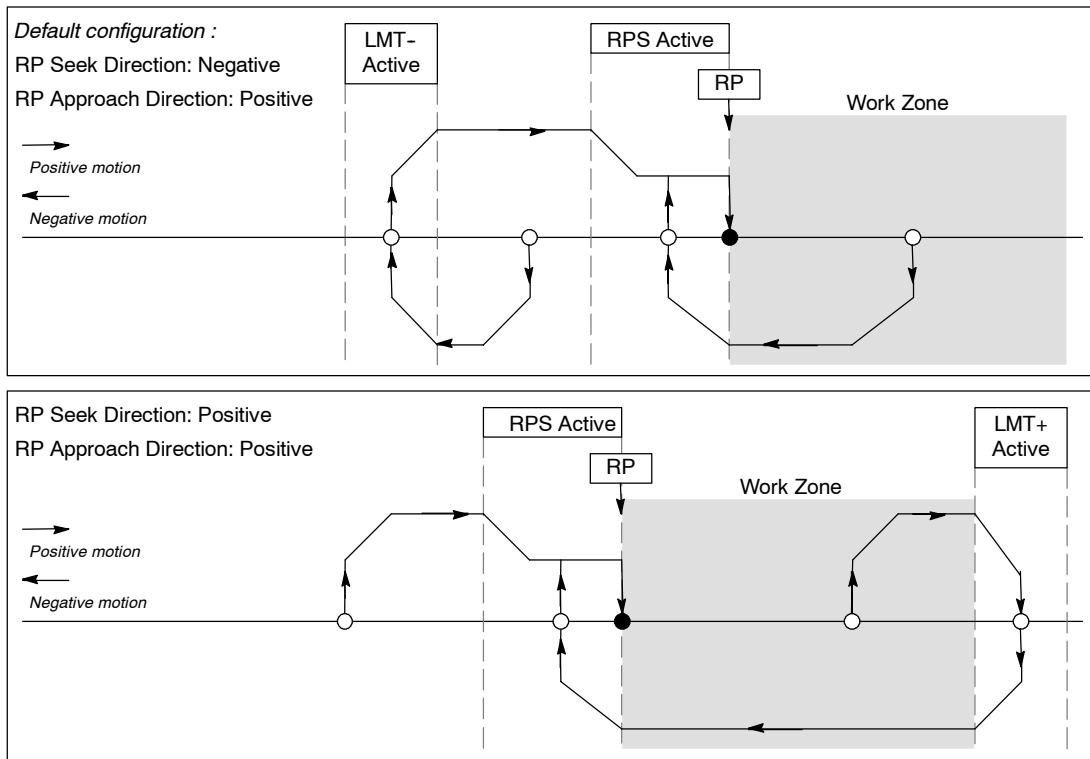

Figure 9-14 RP Seek Mode 1
For more information about the different RP seek sequences for the Position module, see Figures 9-14 through 9-17 on pages 254 through 255.
- ☐ Figure 9-14 shows two of the options for RP seek mode 1. This mode locates the RP where the RPS input goes active on the approach from the work zone side.